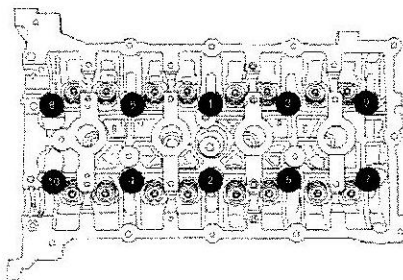

Figure 2. Cylinder Head Bolt Torque Sequence
3. **SHORT HEAD BOLTS:** Install the cylinder head bolts and tighten in the sequence shown in Figure 2. If your bolt has the short head (1), use the following torque specifications:
4. **LONG HEAD BOLTS:** If your bolt has the long head (2), use the following torque specifications and the sequence shown in Figure 2.
1. Install the main bearing bolts and tighten in the sequence shown in Figure 2. If the bolt being used resembles callout 1 or 2 above, use the following torque specifications:
2. If the bolt resembles the bolt head in callout 3, or any other bolt not matching any of the 3, use the following torque specifications and the sequence shown in Figure 2.